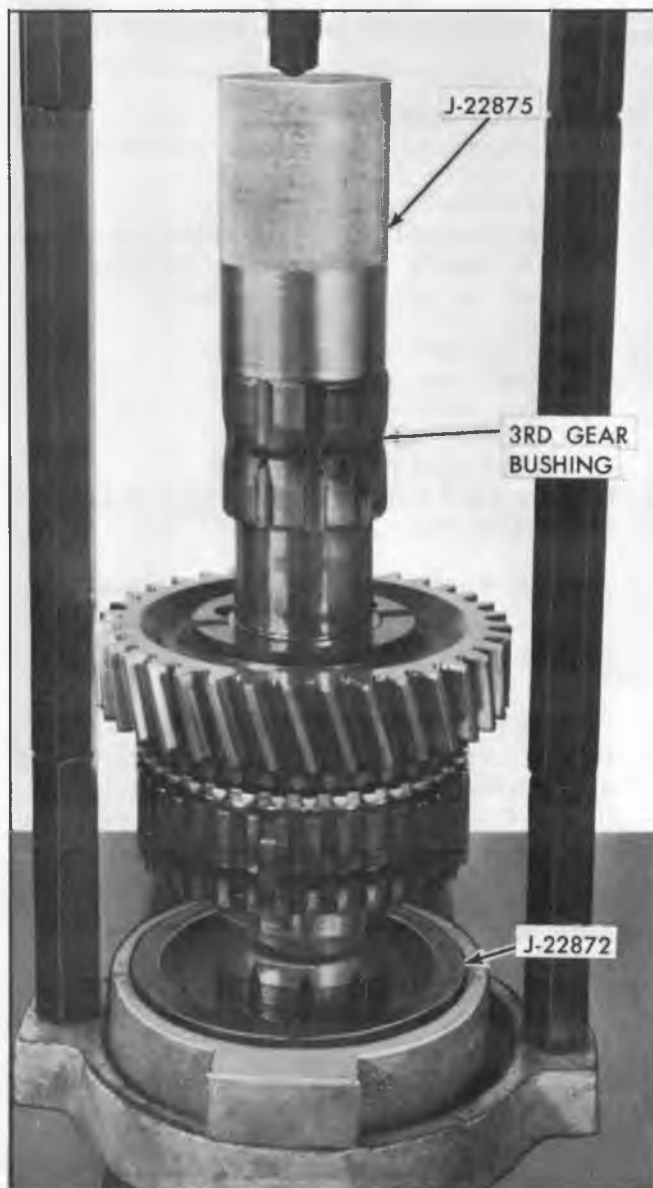

Fig. 18Q—Installing 3rd Speed Gear Bushing
6. Install 3rd speed gear thrust washer onto mainshaft with tang on thrust washer in slot on shaft and against 2nd speed gear bushing. Then press 3rd speed gear bushing onto mainshaft using Tool J-22875 until it bottoms against thrust washer (fig. 18Q).